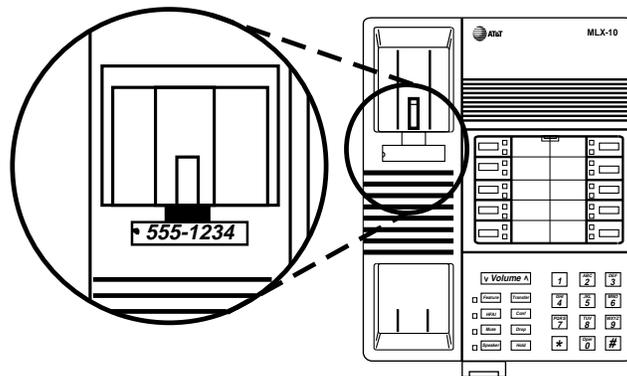

Figure 3–33. Labeling the Extension
- b Type or write the assigned extension number on the card. See Figure 3–33.